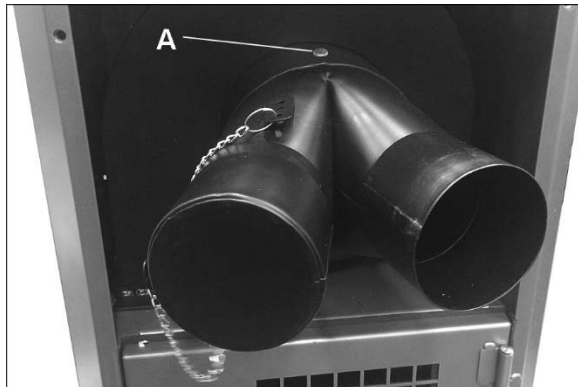

Figure 3
2. Install inlet adaptor onto dust port and secure with screw (A, Figure 3).